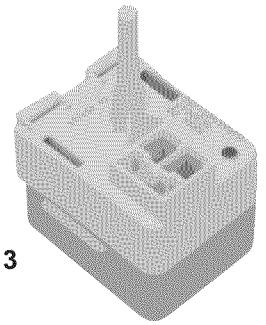

FIG. 3
- Style 2:** Discrete, See Figure 3